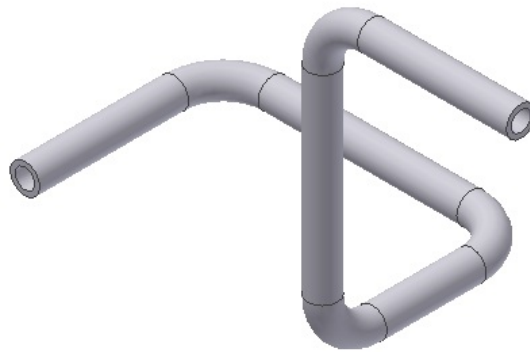

Figure 14-47 Pipe for Tutorial 3
3. Choose **OK** to close the **Sweep** dialog box. The final pipe for Tutorial 3 is shown in Figure 14-47.